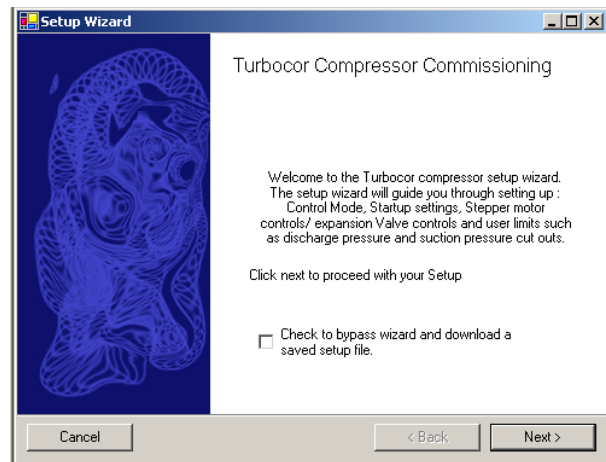

Figure 5 Commissioning Set-up Wizard
1. To launch the commissioning setup wizard, select “System Commissioning” from the “Advanced” menu item. The introduction screen for the commissioning setup wizard appears; refer to Figure 5. Click Next.